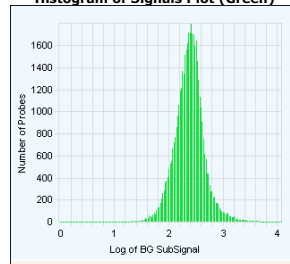

Figure 6 CGH QC report generated from Feature Extraction software v10.5, page 1
- 8 After the extraction is completed successfully, view the QC report for each extraction set by double-clicking the QC Report link in the **Summary Report** tab. Determine whether the grid has been properly placed by inspecting **Spot Finding of the Four Corners of the Array**. See Figure 6 and Figure 7.